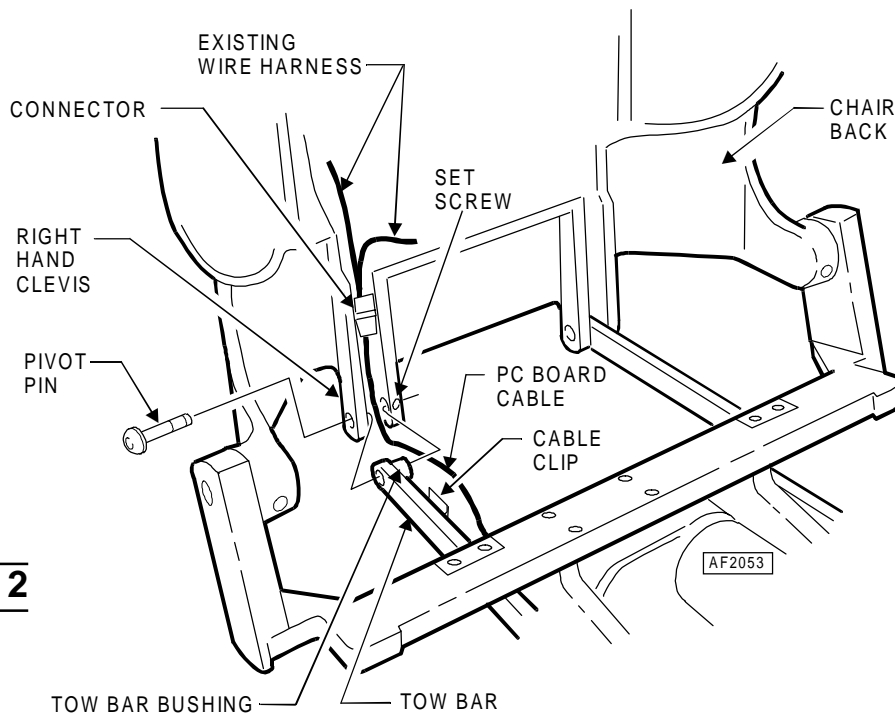

Figure 2
2. Remove the pivot pin in the right hand clevis by loosening the set screw and pulling the pin out as (See Figure 2).
3. Disconnect the PC board cable from the existing wire harness cable at the connector. Remove the PC cable from the cable clip (See Figure 2).
8. Insert the cable into the same cable clip that held the PC board cable. *This step is important to insure proper cable routing which will allow the chair back to move freely without damaging the cable* (Refer to Figure 2).
9. Re-install the tow bar to the right clevis and secure the pivot pin by tightening the set screw. Be sure the cable is mounted behind the tow bar bushing (Refer to Figure 2).